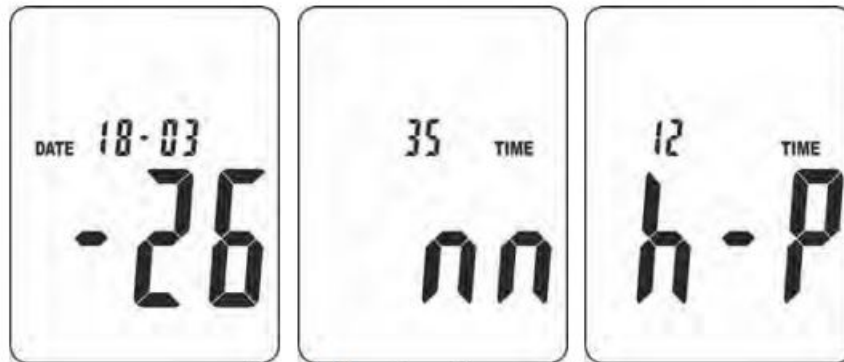

Fig. 3: System time setting
2. Press and hold key SET and switch on the instrument using key ON/OFF. Release key SET with message "TIME" shown on the display. The following screen (see Fig. 3 – left side) indicating the current date (e.g.: 26/03/18) is shown on the display.
3. Press key SET to enter the programming section of "Minutes". The screen in Fig. 3 –Middle appears on the display.
4. Press key LEV to set the Minutes and key SET to proceed and set the Hour (see Fig. 3– right side).